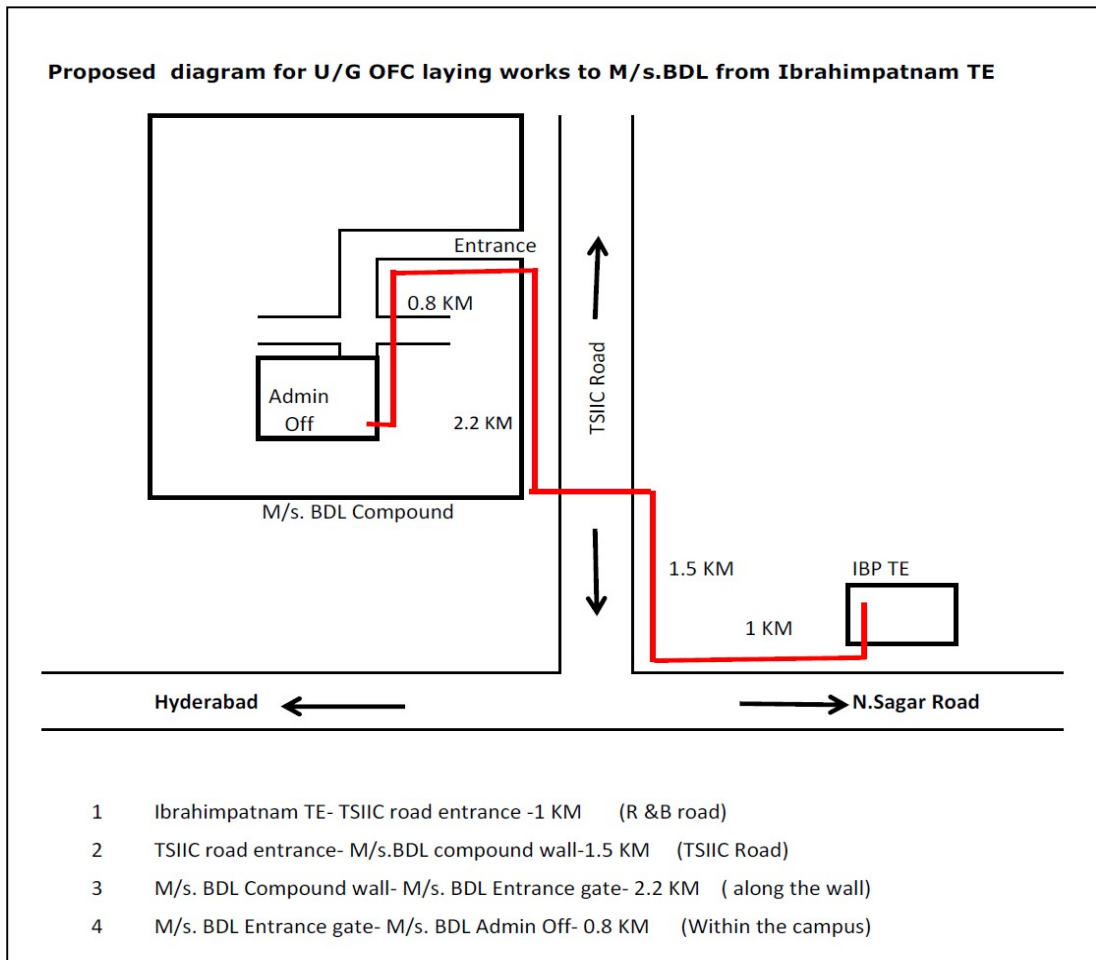

Figure-1
- K)** Proposed Route Diagram for UG OFC laying from Ibrahimpatnam T/E to M/s BDL, Seriguda SEZ, Hyderabad Rural, Hyderabad: **Figure-1 (see next page)**